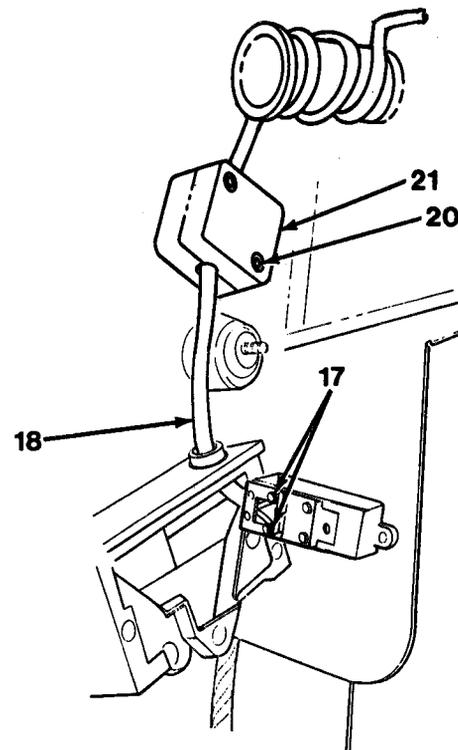
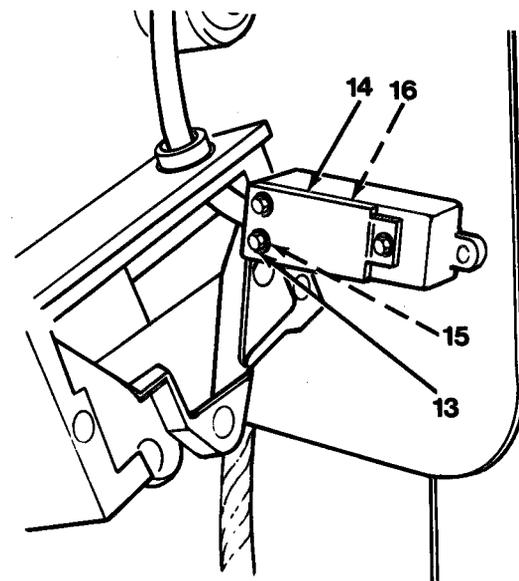

Figure 10-4
Figure 10-3
21. Spool cord (18) off of cable reel, thread through roller brackets, wrap 3 to 4 times around strain relief tube and install clamping block (21) and two capscrews (20) to secure harness (18, Figure 10-4) in place.
22. Connect cord (18) to electrical switch by tightening two screws (17) on electrical switch. Slide electrical switch in place in anti-two blink switch assembly (9).
23. Install cover gasket (16), three O-ring type gaskets (15), switch cover (14) and tie screws (13, Figure 10-3).